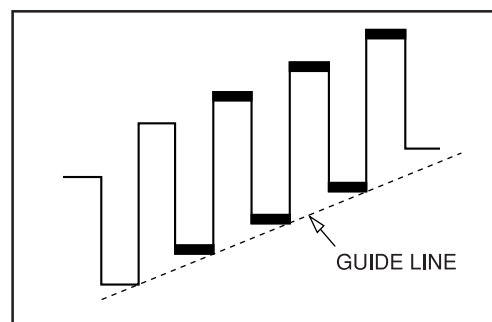

Fig. 3-3
2. Use the volume keys on the jig remote controller to adjust the lower envelope of waveform tangential to the linear ramp as shown in Fig. 3-3.